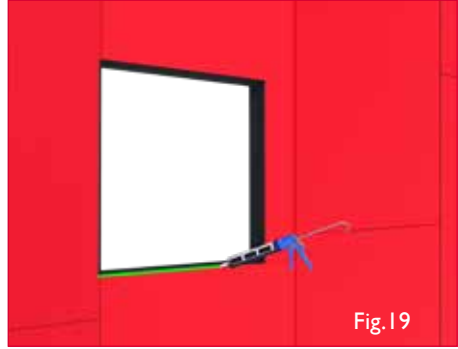

Fig. 19
2. Lap Wraptite Membrane over the EPDM up to the opening edges. Seal any exposed horizontal Wraptite edges that are not protected by the shingled effect as described in Section 5 with a bead of Wraptite Liquid Flashing (Figs. 19 & 20).